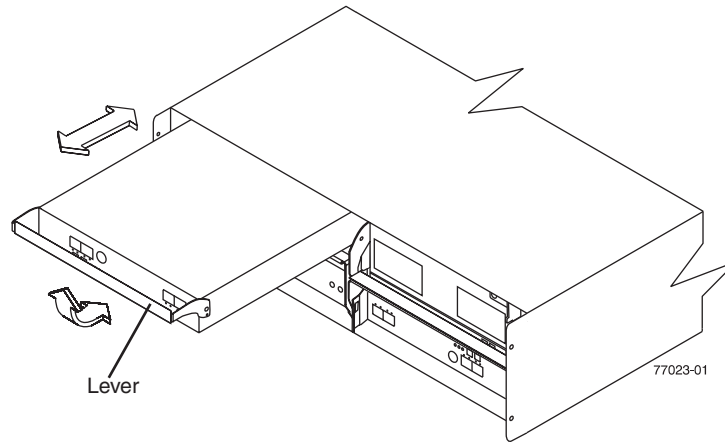

Figure 18. Removing and replacing an Environmental Services Monitor (ESM)
1. Slide one ESM into the empty slot in the storage expansion enclosure. Be sure that the lever is pulled straight out as you slide the ESM in, as shown in Figure 18 on page 33.